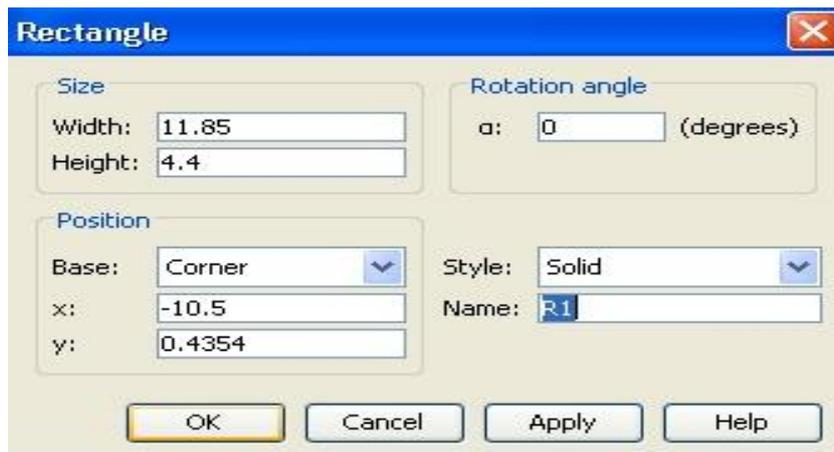

Figure 5: Rectangular defining.
- Click Draw > Specify Objects > Rectangular, and on the pop-up window specify the box as in Fig. 5 and click OK (as a result we have Box R1).
- Click Draw > Specify Objects > Rectangular and on the pop-up window (just like the Fig. 5) specify the box. We just change the Width and Height and the Position in the window. Click OK (as a result we have Box R2).